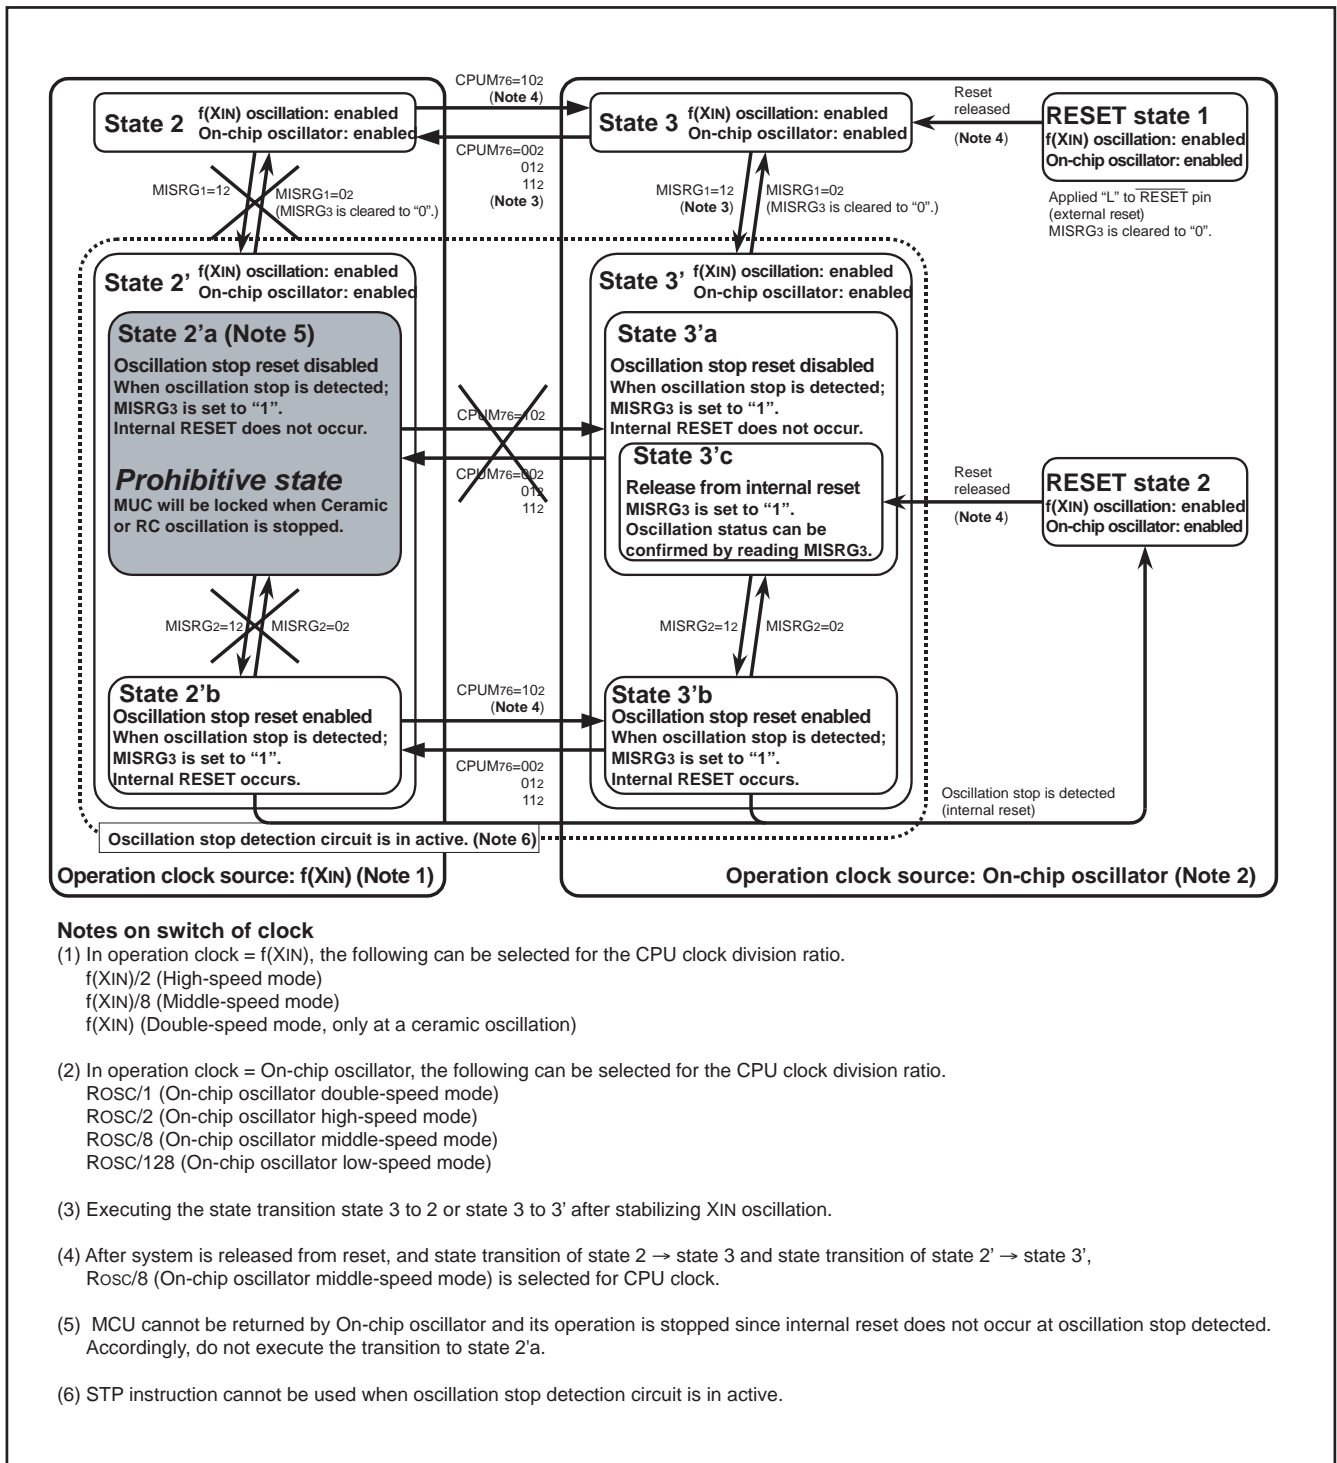

Fig. 84 State transition 2
- Do not execute the transition to "state 2'a" shown in Fig. 84 because in this "state 2'a", MCU is stopped without reset even when X_{IN} oscillation is stopped.
- (1) External reset
- (2) Write "0" data to the ceramic or RC oscillation stop detection function active bit.